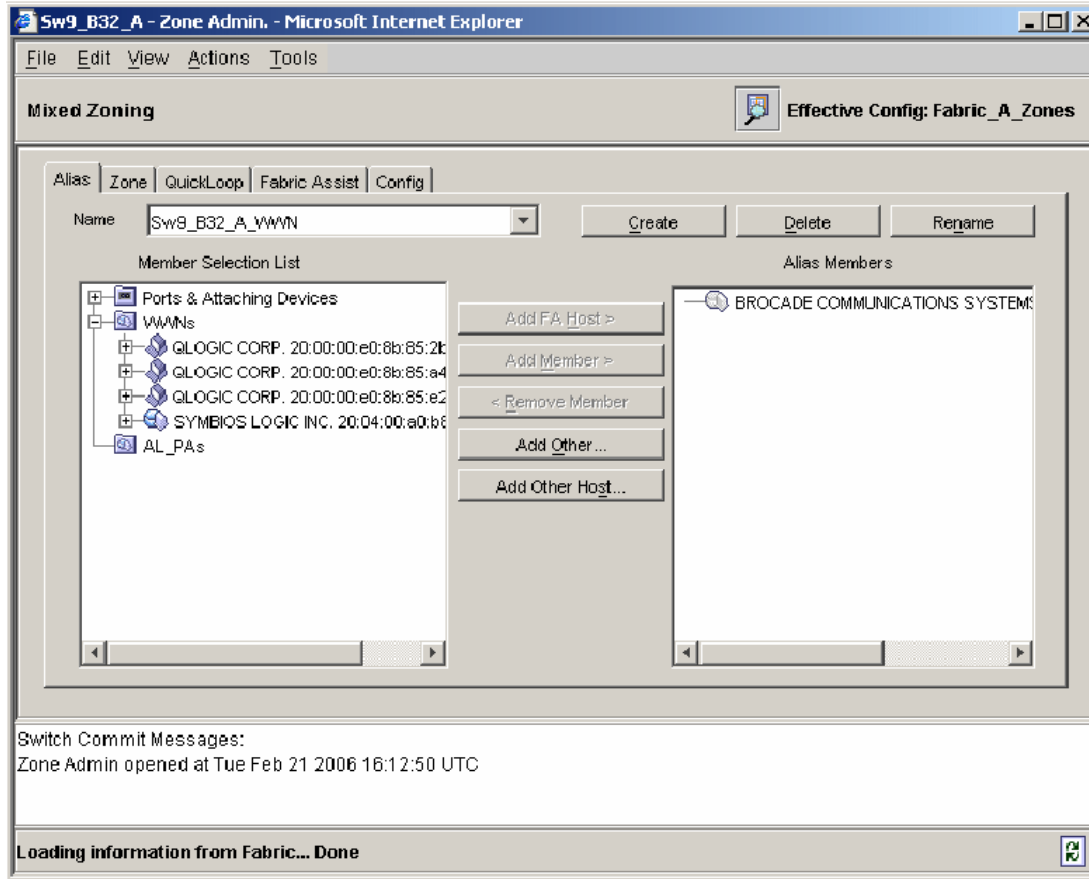

Figure 5-54 Zone Administration window
2. From the SAN32B in Fabric A, click the **Zone Administration** icon in the Fabric Toolbar to access the Zone Admin module, as shown in Figure 5-54 on page 117.